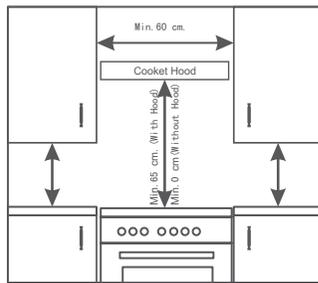

Figure 1
- g) The cut-out for the cooker cabinet should have the dimensions indicated in the figure 1.